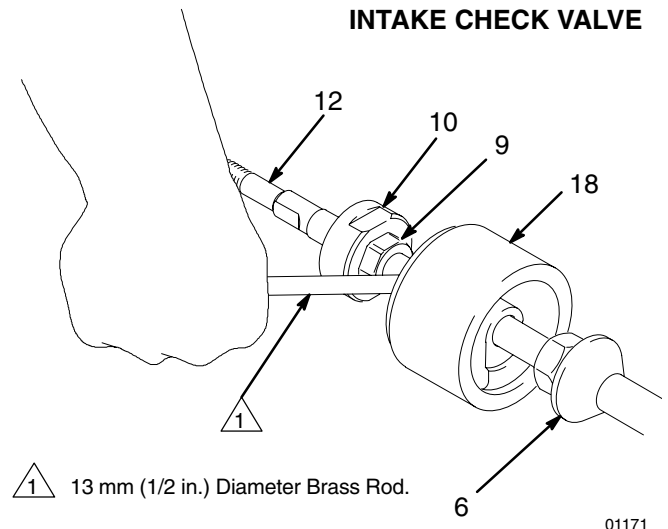

Fig. 6
2. Hold the flats of the priming piston rod (12) with an adjustable wrench, and use a second wrench to unscrew the priming piston nut (14) from the rod. Slide the priming piston (15) and guide (13) off the rod. Inspect the outer surface of the guide (13) and the inner and outer surfaces of the piston (15) for scoring, wear, or other damage.
3. Stand the pump upright in a vise. Loosen the packing nut (2) using the packing nut wrench (104) supplied, or a hammer and brass rod. Using a socket wrench, remove the six capscrews (32) and washers (43, if present).
4. Tap the underside of the outlet housing (19) with a rubber mallet to loosen the housing from the cylinder (4). Lift the outlet housing off the pump and set it aside. Be careful not to scratch the displacement rod (1) while removing the housing. Remove the seal (39) from the top of the cylinder.
5. Lift the cylinder (4) up off the intake housing (17). The displacement rod (1), piston assembly, intake valve assembly, and priming piston rod (12) will come with the cylinder.
6. Place the cylinder (4) sideways in a vise with soft jaws. Using a rubber mallet on the end of the priming piston rod (12), drive the displacement rod (1) and piston assembly out the top of the cylinder. Continue to pull the rod out of the cylinder until the priming piston rod (12) comes free.
7. Remove the seal (39) from the bottom of the cylinder (4). Hold the cylinder up to the light at an angle to examine the inside surface for scoring or damage.
8. Place the flats of the displacement rod (1) in a vise. Using a 13 mm (1/2 in.) diameter brass rod, pry the intake check valve assembly away from the rod guide (18) far enough to apply wrenches to the valve assembly. See Fig. 6.